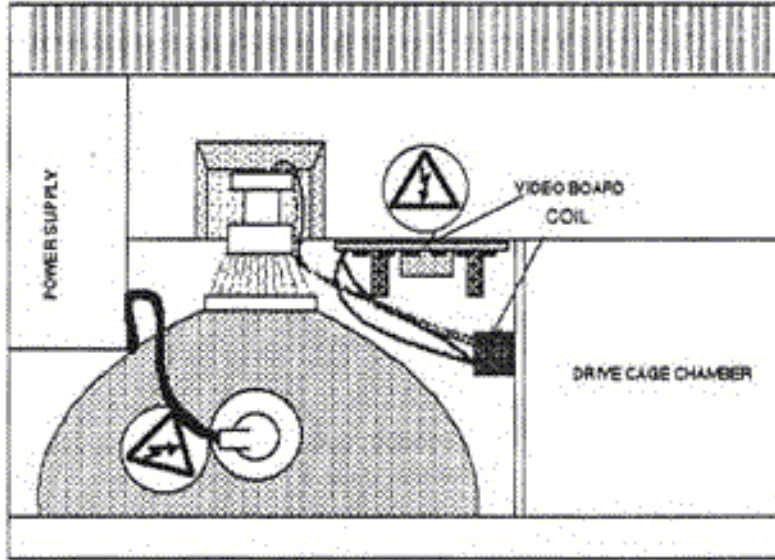

Figure 30
Through the years several hard drive options have been available. New technologies in both operating systems and the hard drives themselves make one option optimal, the Sun 40 SCSI. The Sun 40 SCSI is a true SCSI hard drive mounted on a SCSI card (see figure 30) that fits internally in the Lisa or Mac XL via one of the expansion ports. The SCSI card also allows you to connect external SCSI devices to your computer as well.
14. The new transformer attaches to the outer wall of the disk drive chamber with double-sided tape. Clean the area, and attach the transformer as shown in Figure 30.